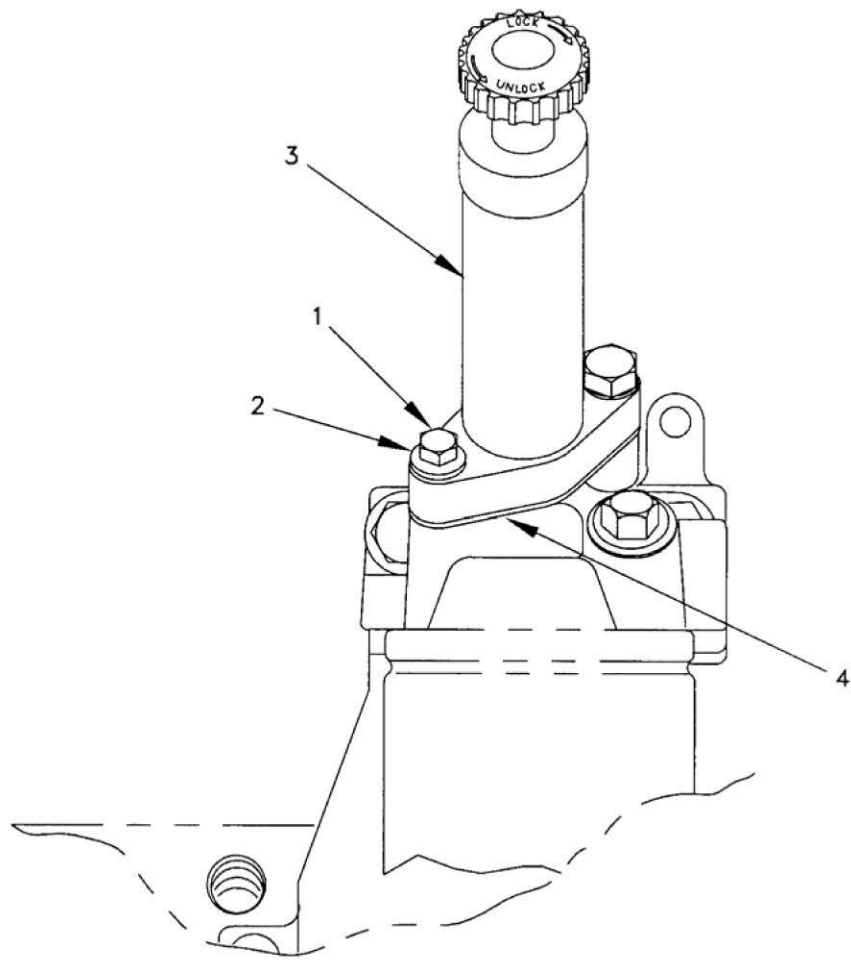

Figure 1. Fuel Priming Pump.
3. Remove two bolts (Figure 1, Item 1), washers (Figure 1, Item 2), fuel priming pump (Figure 1, Item 3), and gasket (Figure 1, Item 4).
1. Clean area where gasket (Figure 1, Item 4) will mate with engine.
2. Apply a light coat of fuel to gasket and install gasket (Figure 1, Item 4), fuel priming pump (Figure 1, Item 3), two washers (Figure 1, Item 2), and bolts (Figure 1, Item 1). Tighten bolts.